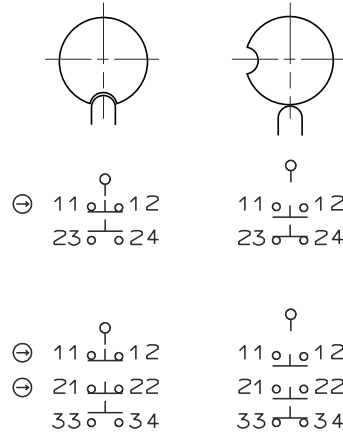

Figure 6: Switching elements and switch functions
3. Connection diagram, see figure 6, page 10.